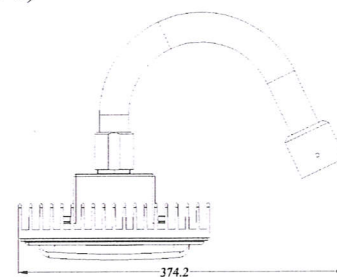

Figure 3
- ☞ Tighten tube locking setscrew to conduit, 1.0 N-m. (Figure 3)